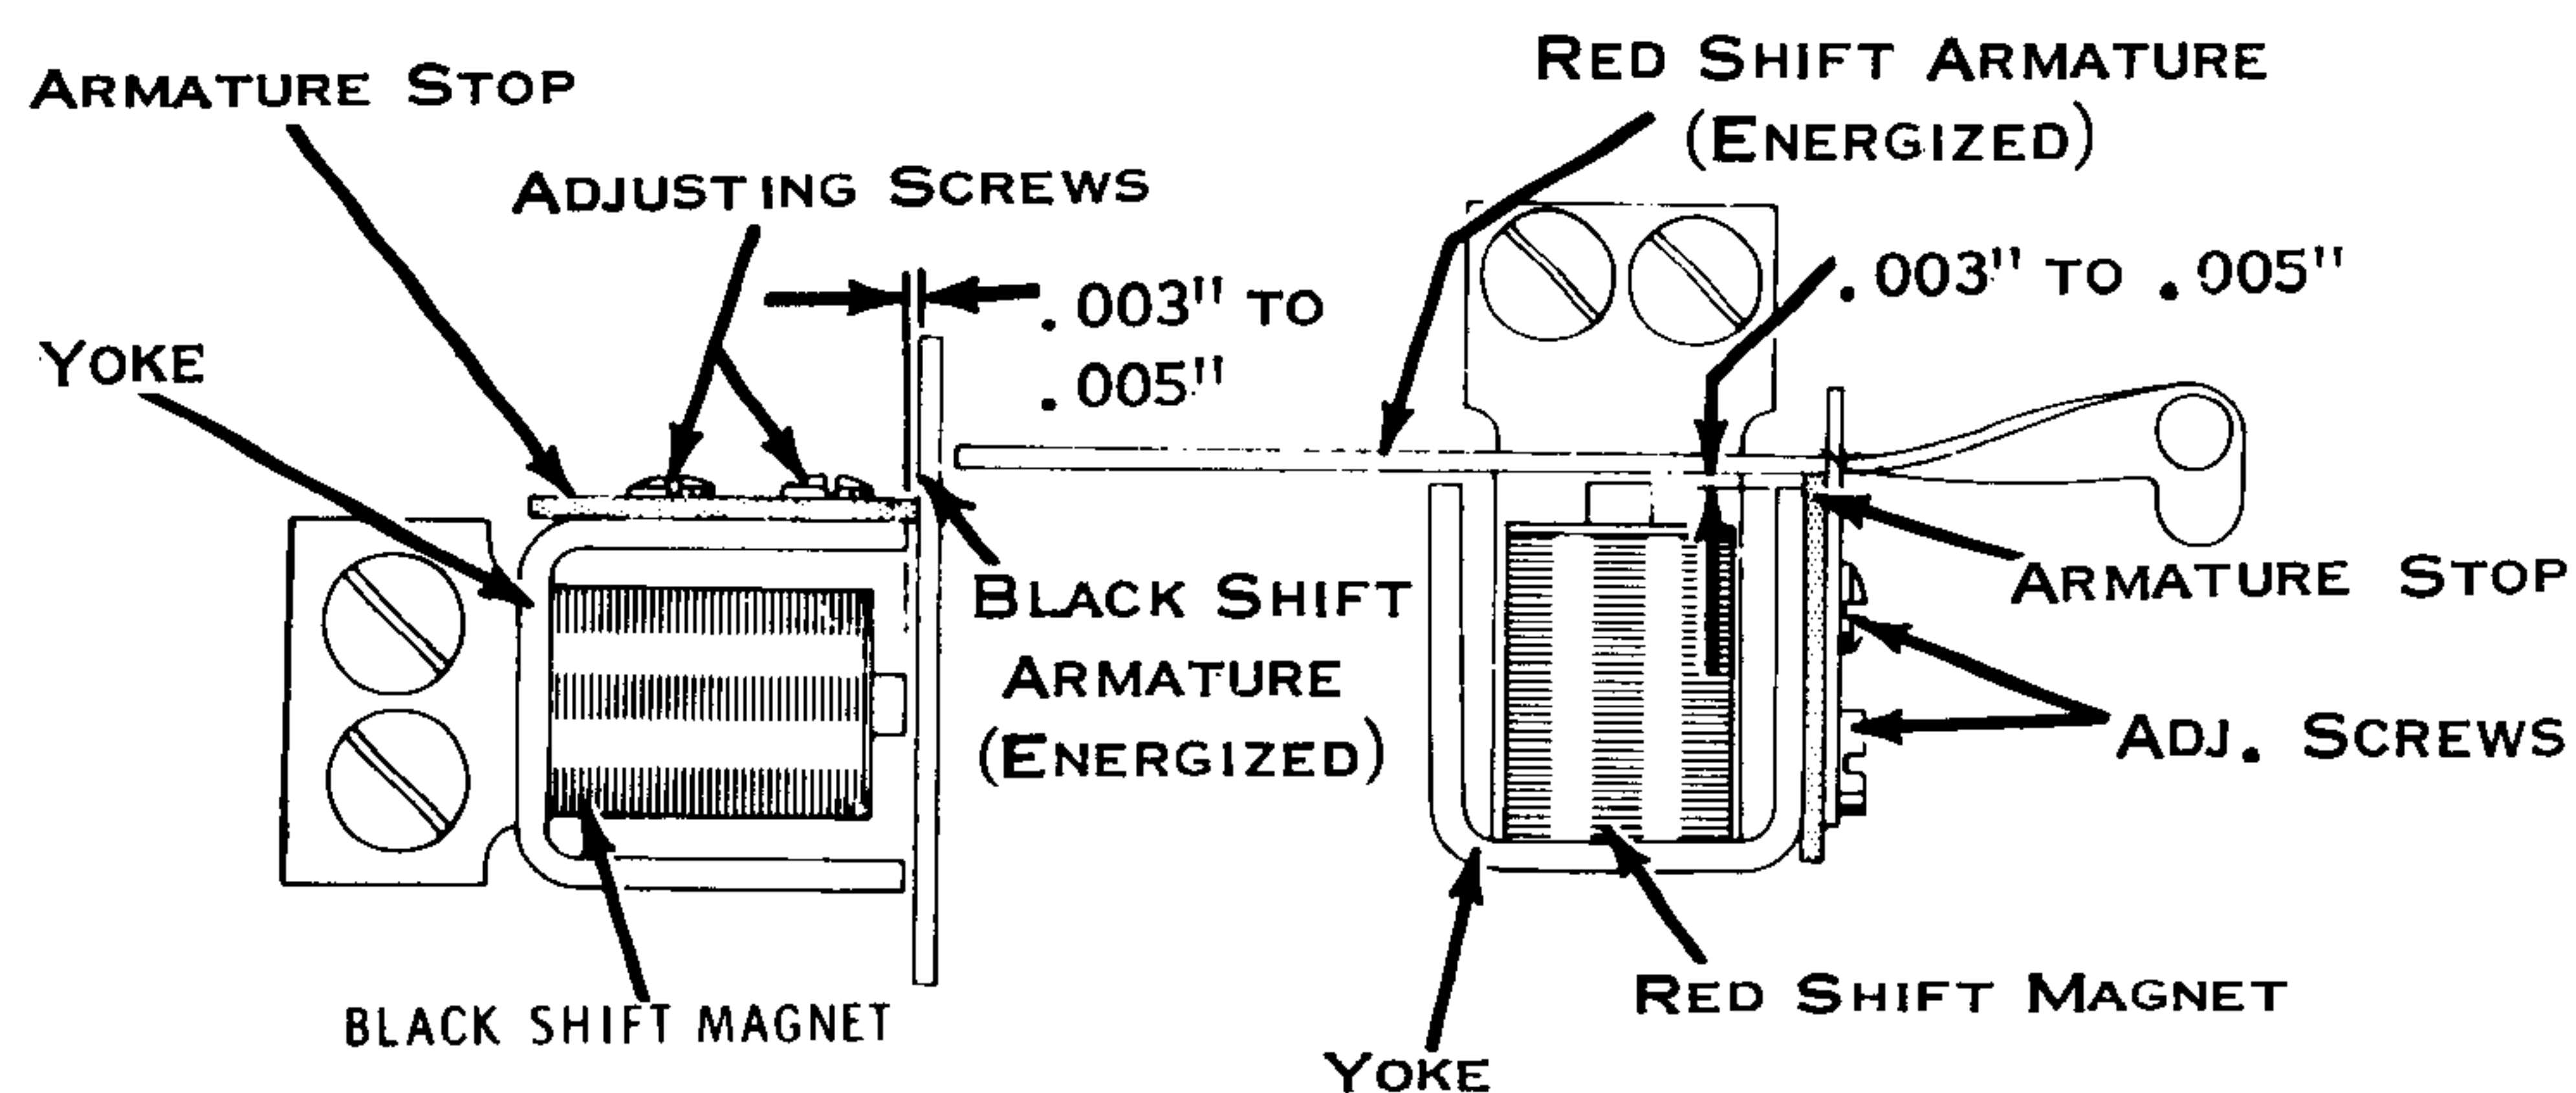

Figure 211. Armature Stops
- b. With the armatures energized, position the armature stops so that the armatures clear the magnet yoke by .003" to .005" (Fig. 211).